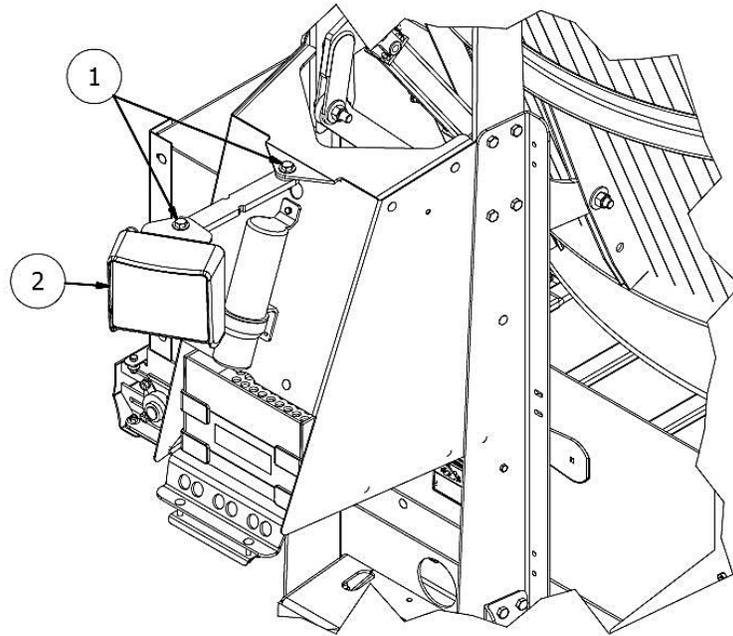

Figure 15 - Scale Indicator Adjustment
- To adjust the direction of the indicator display, refer to **Figure 15**: